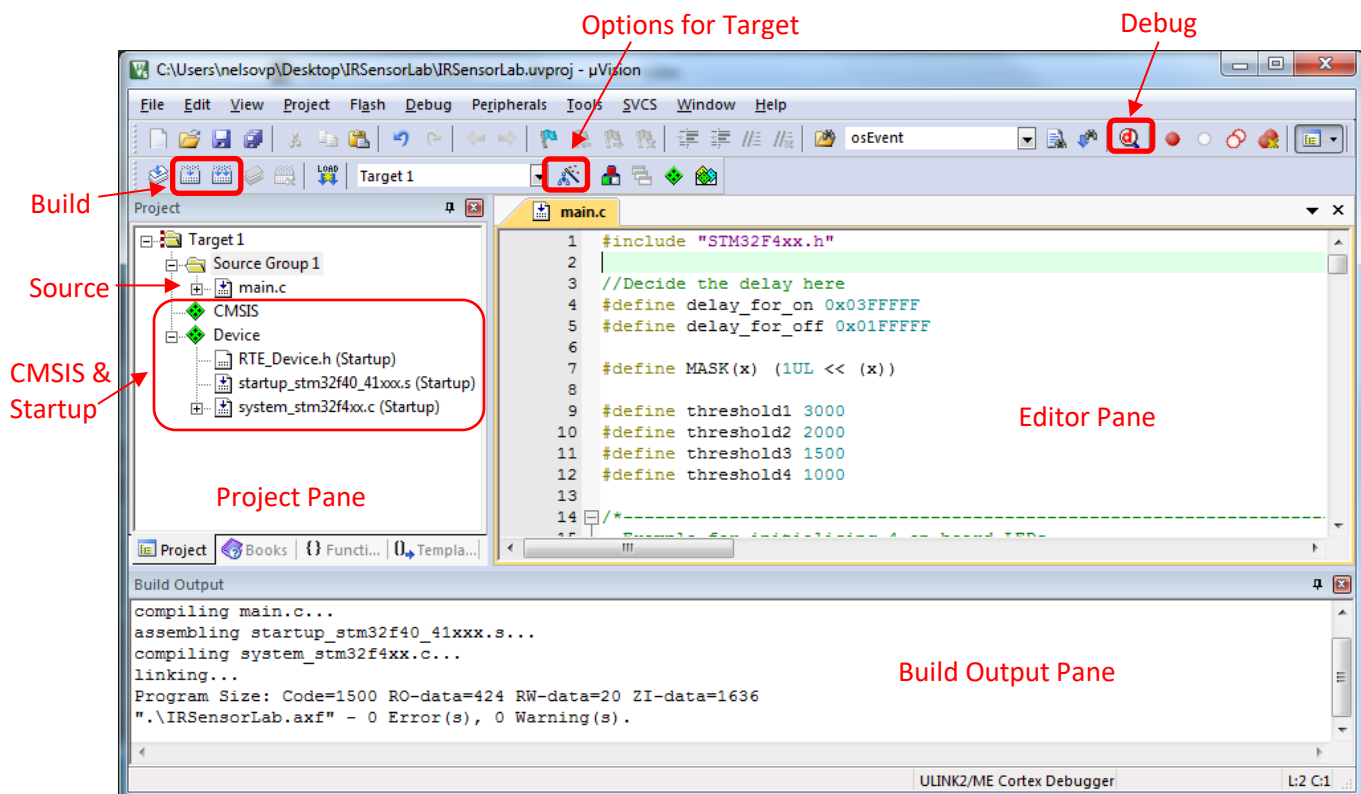
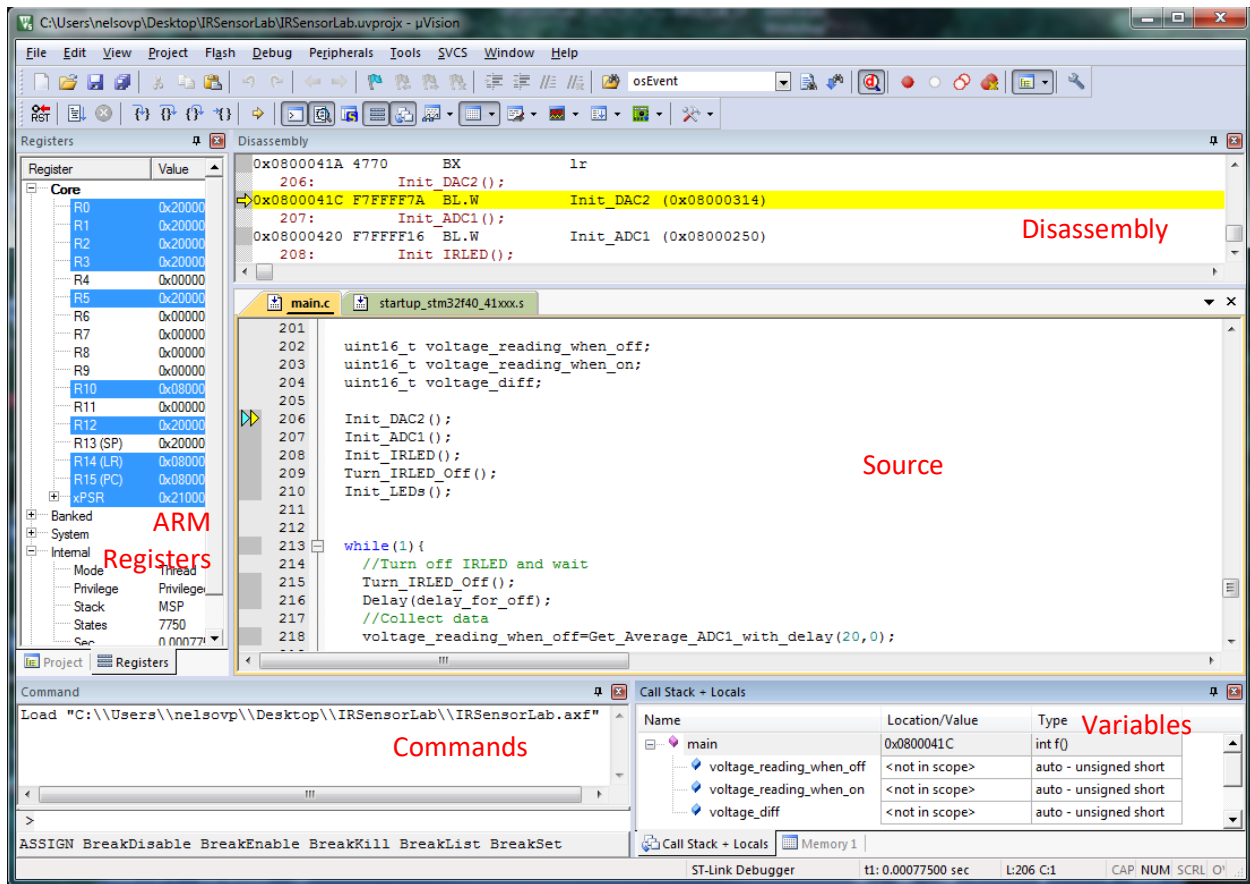

Figure 4. Add source file(s) to Source Group 1 in the Project pane, and build the project.
Figure 12. MDK uVision5 debug window.
4. Create and add source file(s) to the project in the **Project** pane of the μ Vision5 window (Figure 4). You may do this in either or both of the following ways.
11. A **debug initialization file** is useful to set up any desired initial register and memory values and other debug options when the debugger is first opened. This is a plain text file that contains one or more debugger commands; these commands may also be entered in the Debugger's Command Window (see Figure 12).
- The second line initializes the program counter (PC) to the address of the first instruction to be executed. This is useful if no startup code is used and/or if executing programs in RAM mode.
12. To initiate a debug session, click the **Debug** icon in the *µVision5* window (Figure 4), or select **Debug** → **Start/Stop Debug Session**. Depending on how you set up the debug options, this will open the Debug Window (Figure 12) after: